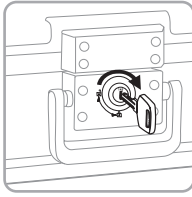

Figure 2
2. Press down firmly on top of chest and turn the key clockwise to the right $\frac{1}{4}$ turn (Figure 2).